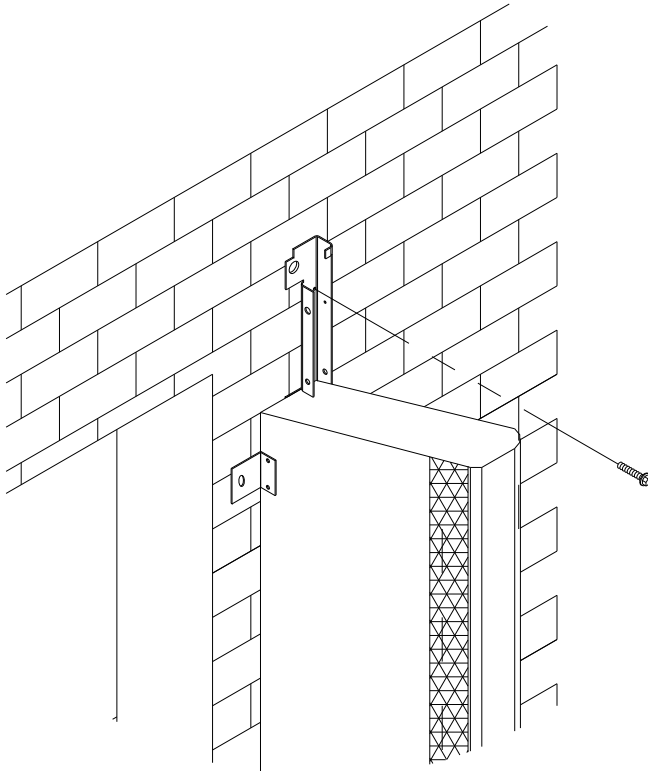

FIGURE 3
Unit widths outside this range may be adjusted after by loosening side member clip brackets and header anchors. For best results, keep the unit width of the mounting brackets as close to above specifications. (See Figure 3)
8. Install a 3/8" anchor into both canopy mounting brackets as shown in Figure 3. There is a predrilled hole and the anchor will land just below the wood mounting board. These extra anchors are critical in supporting the header frame during the rest of the unit installation.